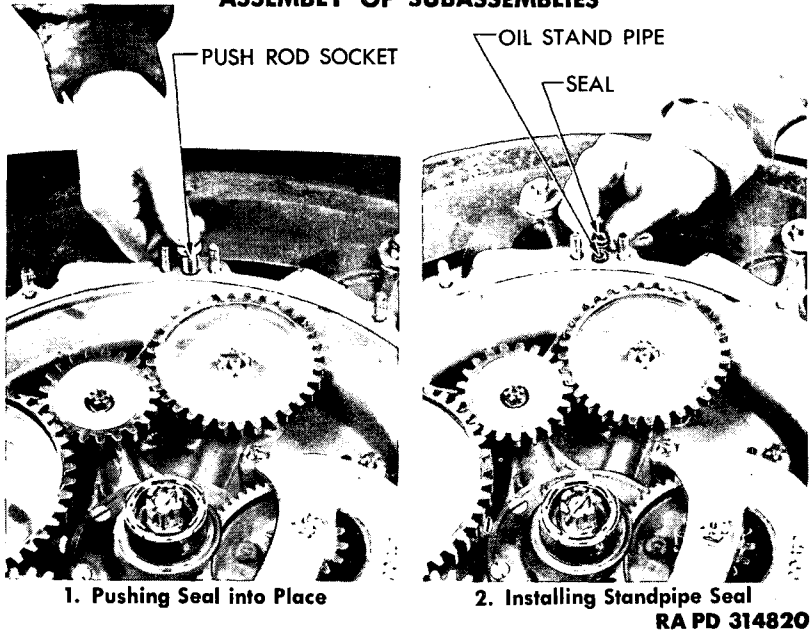

Figure 207 – Installing Standpipe Oil Seal
q. Install Oil Stand Pipe Seal. Place small, round, rubber seal for oil standpipe around pipe (fig. 207). Using a valve push rod socket as an installing tool, push seal down until seal is flush with face of diffuser section (fig. 207).